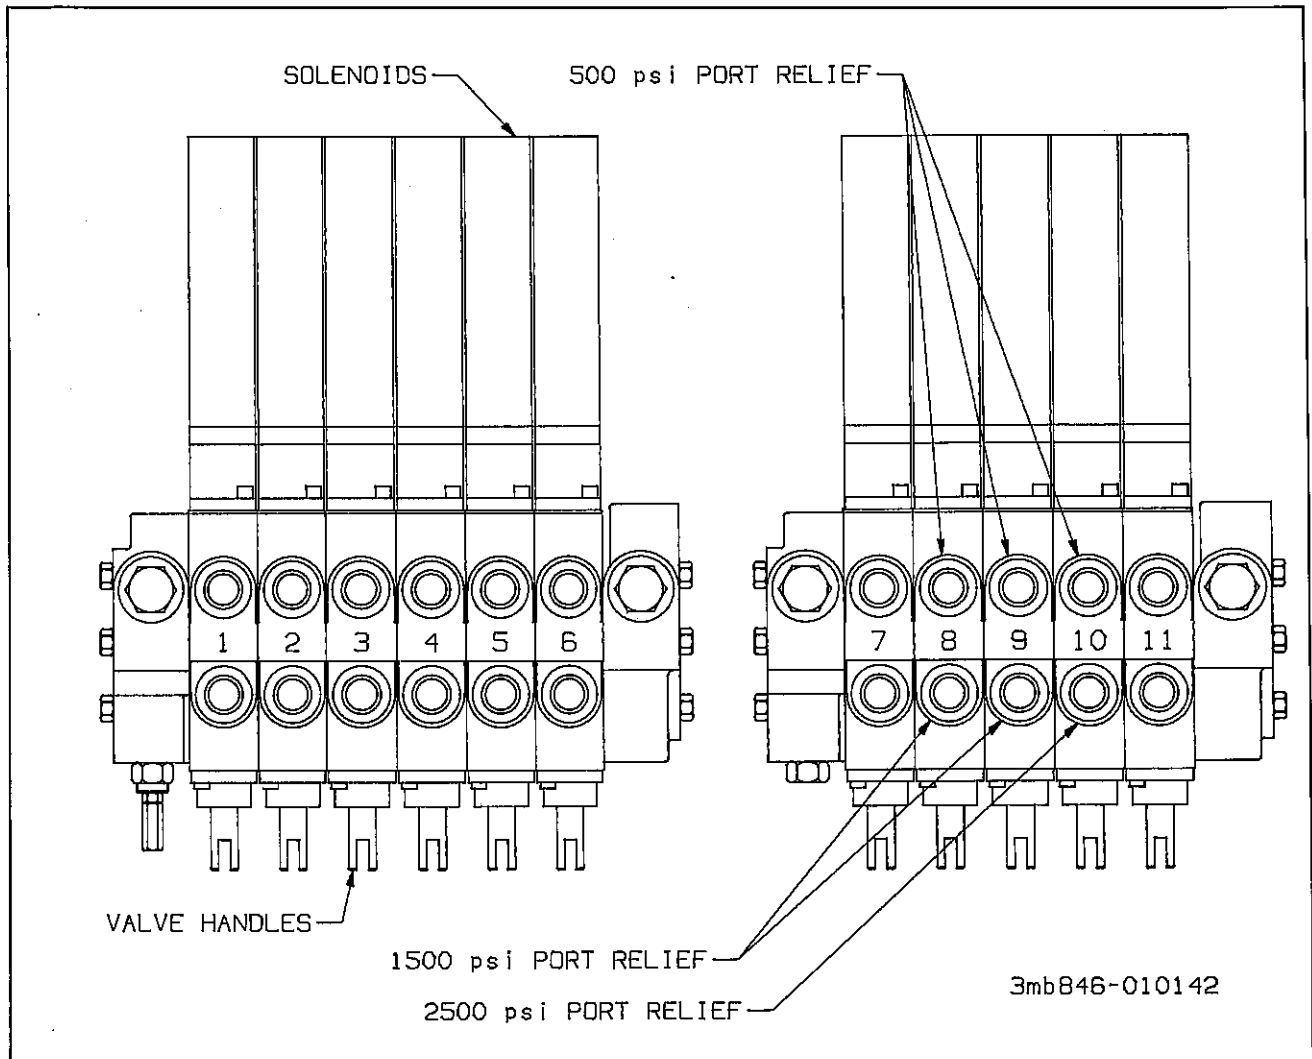

Figure 4-2 Pressure Settings for Control Valve Ports
a. All sections on the 6 spool valve are set at 2500 psi. Sections 7 and 11 on the 5 spool valve are set at 2500 psi. Sections 8, 9 and 10 have relief valves. The front ports of sections 8 and 9 should be set at 1500 psi and the rear ports at 500 psi. The front port of section 10 should be set at 2500 psi and the rear port at 500 psi. (see Figure 4-2).